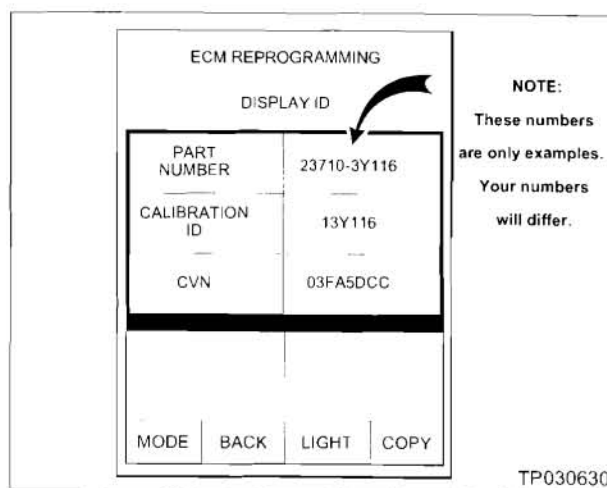

Figure A16
21. Press **CHECK ECM P/N** to "confirm" (take note of) the current ECM part number (see Figure A16).